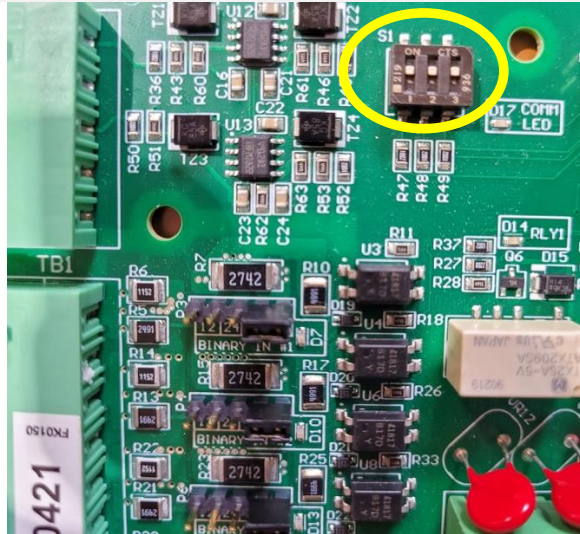
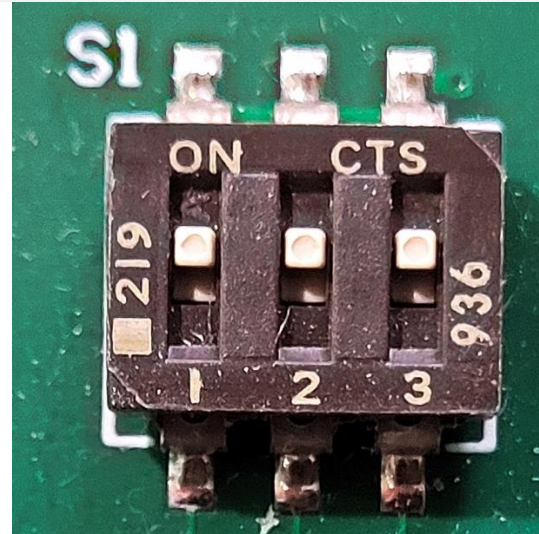

Figure 2A – Auxiliary I/O Board (A4) Dipswitch S1 seen with Silkscreened S1 to Left
Figure 2B – 3 Switches to Adjust when Adding or Replacing an Auxiliary I/O Board
2. Each Auxiliary I/O Board connected to ATevo must have a unique address setting to identify it to the system. The Auxiliary I/O dipswitch (A4-S1), located near the top center of the board (Figure 2A), determines the Auxiliary I/O Board Address using three (3) switches. The switch will be factory set for your system. It should not need to be changed unless an Auxiliary I/O Board is being replaced or added. Viewing the board with the S1 silkscreen label to the left (Figure 2B), the switch UP position is ON, and the DOWN position is OFF.